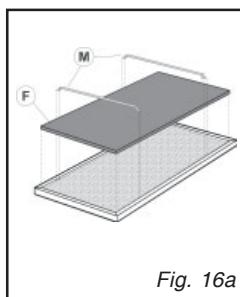

Fig. 16a
• **Replacing the charcoal filter (fig. 16a-16b).**